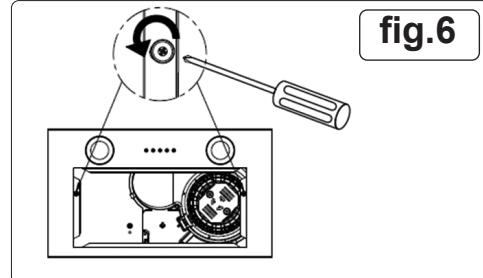

fig.6
- Use a cross screwdriver or an electric tool to remove two screws and washers. See fig.6.